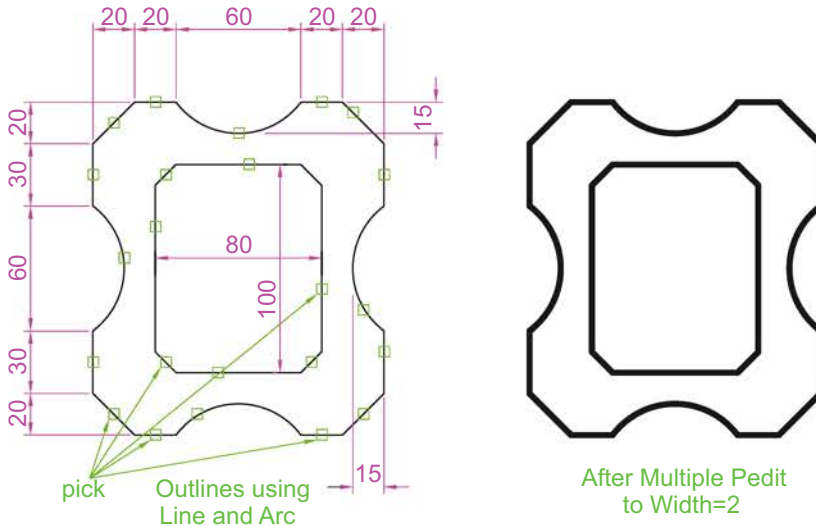

Fig. 4.22 Example – Multiple Edit Polyline
EXAMPLE – MULTIPLE EDIT POLYLINE (FIG. 4.22)
1. With the **Polyline** tool, construct the left-hand outlines of Fig. 4.22.
Select objects: *pick* any one of the lines or arcs of the left-hand outlines of Fig. 4.22
Continue selecting lines and arcs as shown by the pick boxes of the left-hand drawing of Fig. 4.22 until the command line shows:
The result is shown in the right-hand drawing of Fig. 4.22.